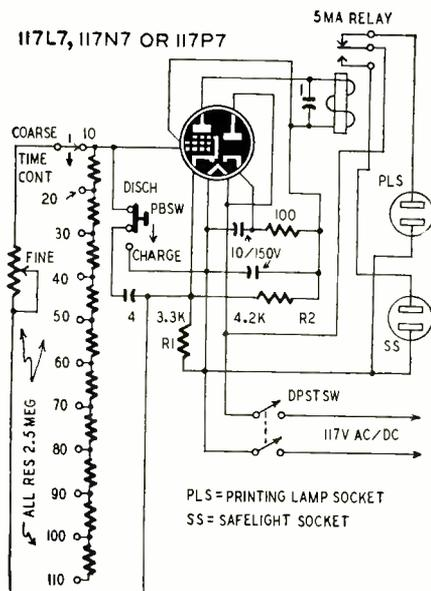

Fig. 1—Circuit of the electronic photo timer.
A more practical device for most constructors is shown in Fig. 1. It is an electronic photo timer for use in the darkroom. It has receptacles into which a safelight and a printing lamp may be plugged. Normally the safelight is on, but the printing lamp may be turned on for any predetermined interval up to 110 seconds.
**MATERIALS FOR PHOTO TIMER—Fig. 1**